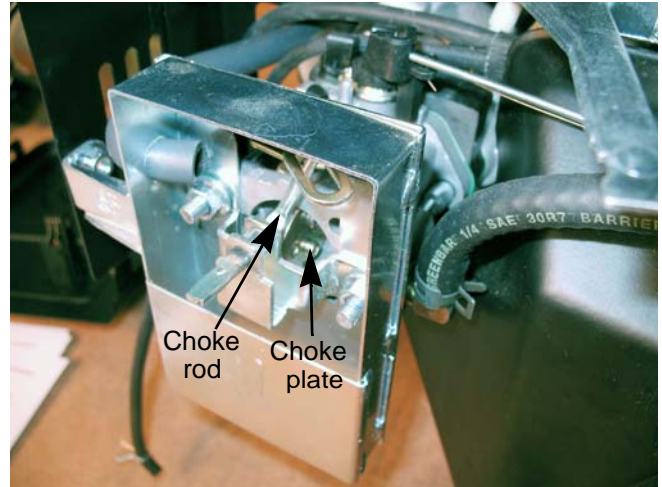

Figure 4.9
2. Rotate the choke knob shaft to verify full choke movement. See Figure 4.9.